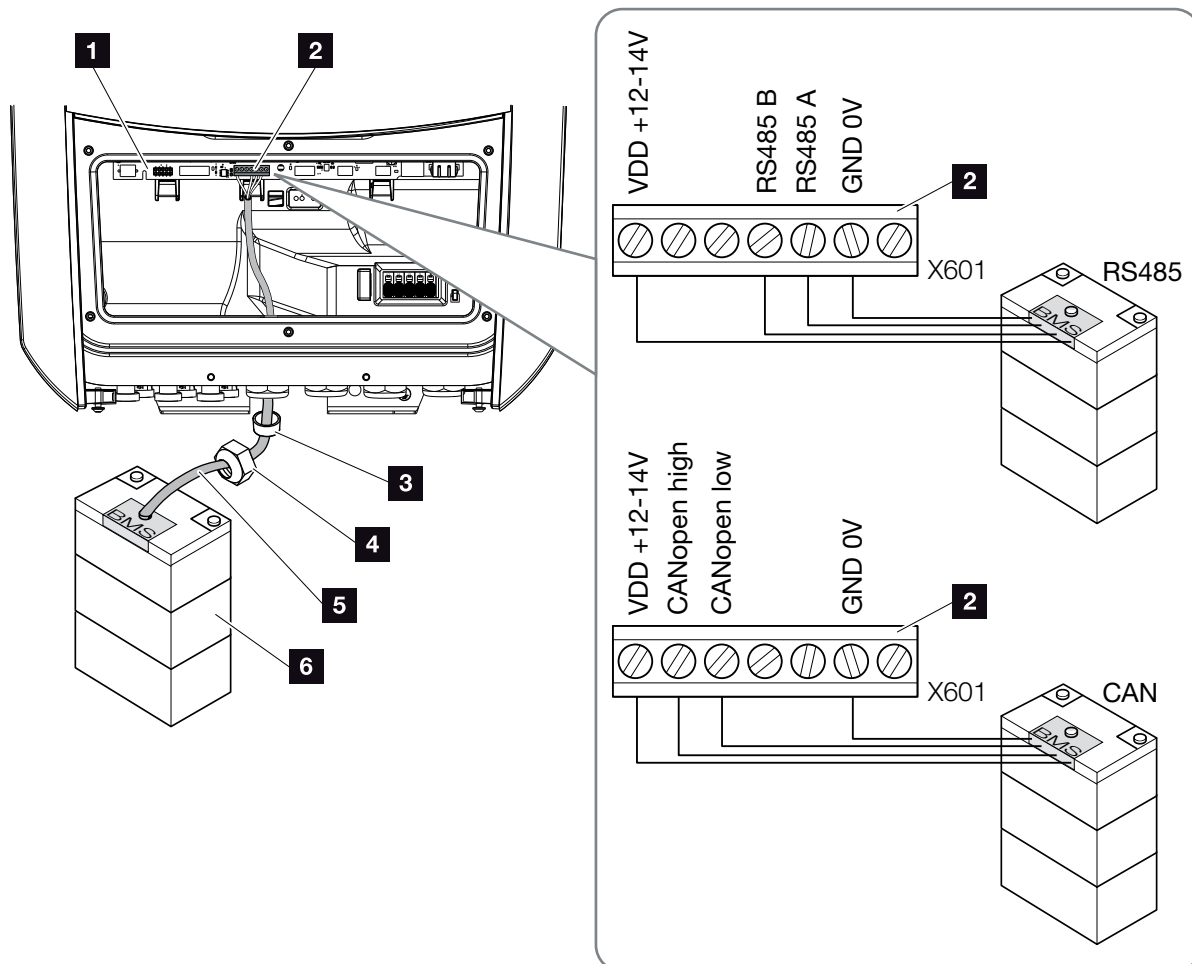

Fig. 36: Battery communication connection via RS485 or CAN
3. Connect communication cable (RS485 or CAN) to communication interface of Smart Communication Board.  **Fig. 36, It. 2**